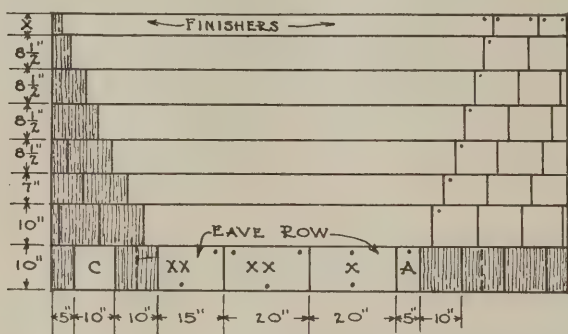

Fig. 2. Spacing of wood strips for 10"x20" shingles
The first slate or shingles to be used are laid lengthwise with the eave, extending one-half or an inch past the fascia, and are generally known as the "eave row," illustrated by Fig. 2 at A, and are nailed at their top corners and bottom center as at xx, or may be nailed at top and bottom center x, as best suits the fancy of the roofer.
The first course of shingles is laid over the eave row with their lower edges flush with same, making a double thickness at the eave; the first slate C, Fig. 2, of this course will center the first slate of the "eave row" and a half slate is used to fill out to the gable, indicated by dark color, after which all the slate will center throughout the roof. Slate should lie straight, lengthwise up and down the
*Spacing Wood Strips.*—All slate manufacturers allow 3 in. for the under lap, hence in order to find the length of exposure, if using 10 in. x 20 in. shingles, 3 in. are deducted, 20 in.-3 in.=17 in., the half of which, 8½ in., is the length to the weather, shown by diagram Figs. 2 and 3.